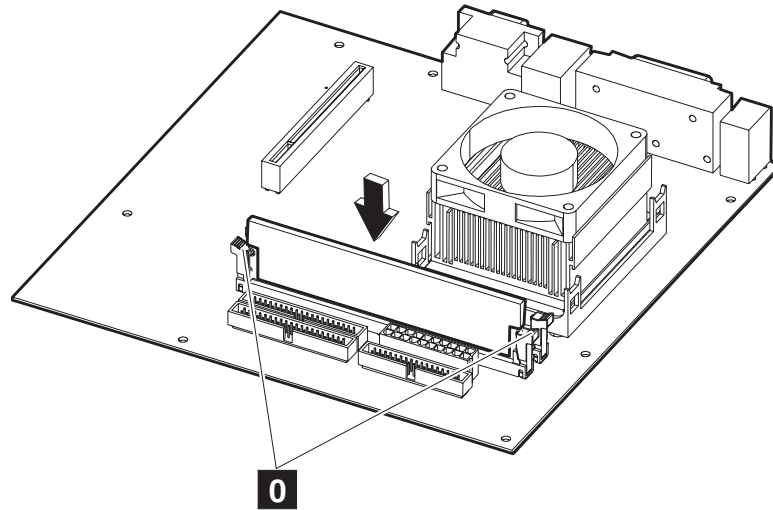

Figure 54. Replacing the memory modules
2. Touching only the top corners of the memory module, align the connector tabs and press down firmly. The white tabs (**0** in Figure 54) on the connector on the planar board will close as the module is inserted. When inserted correctly, the white tabs are completely closed.